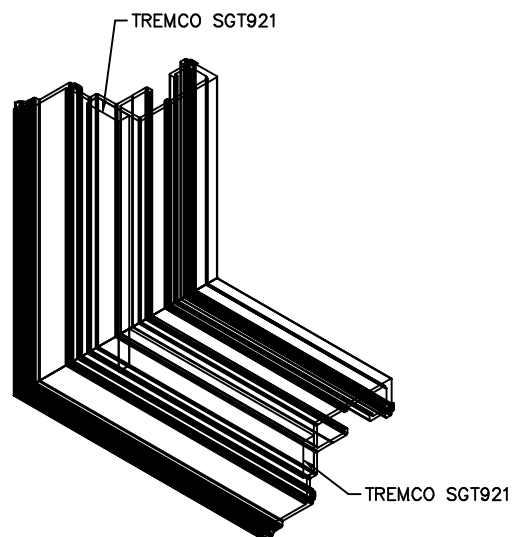

FIGURE 1
3. APPLY TREMCO SGT921 $1/4"$ x $3/4"$ GLAZING TAPE CONTINUOUS AT JAMBS (SEE FIGURE 1).
4. APPLY SGT921 GLAZING TAPE CONTINUOUS AT HEAD AND SILL, BETWEEN TAPE ON JAMBS (SEE FIGURE 1).